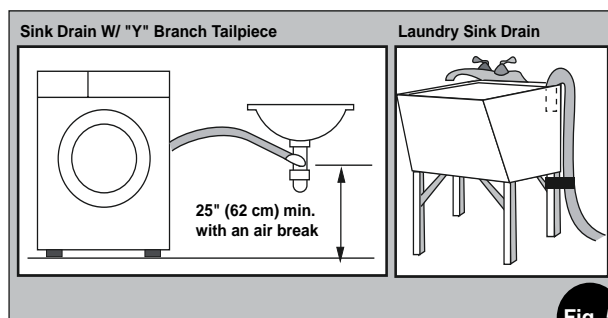

Fig. 5
**Sink Drainpipe System** - Entry into the sink drain system must be above the trap (Fig. 5). When routing the drain hose through cabinets or walls, use a protective material such as electrical or duct tape to cover sharp edges that could damage the drain hose. Use a suitable clamp to secure the drain hose to the "Y" branch or the disposer. With a sink drainpipe system, you may connect directly: